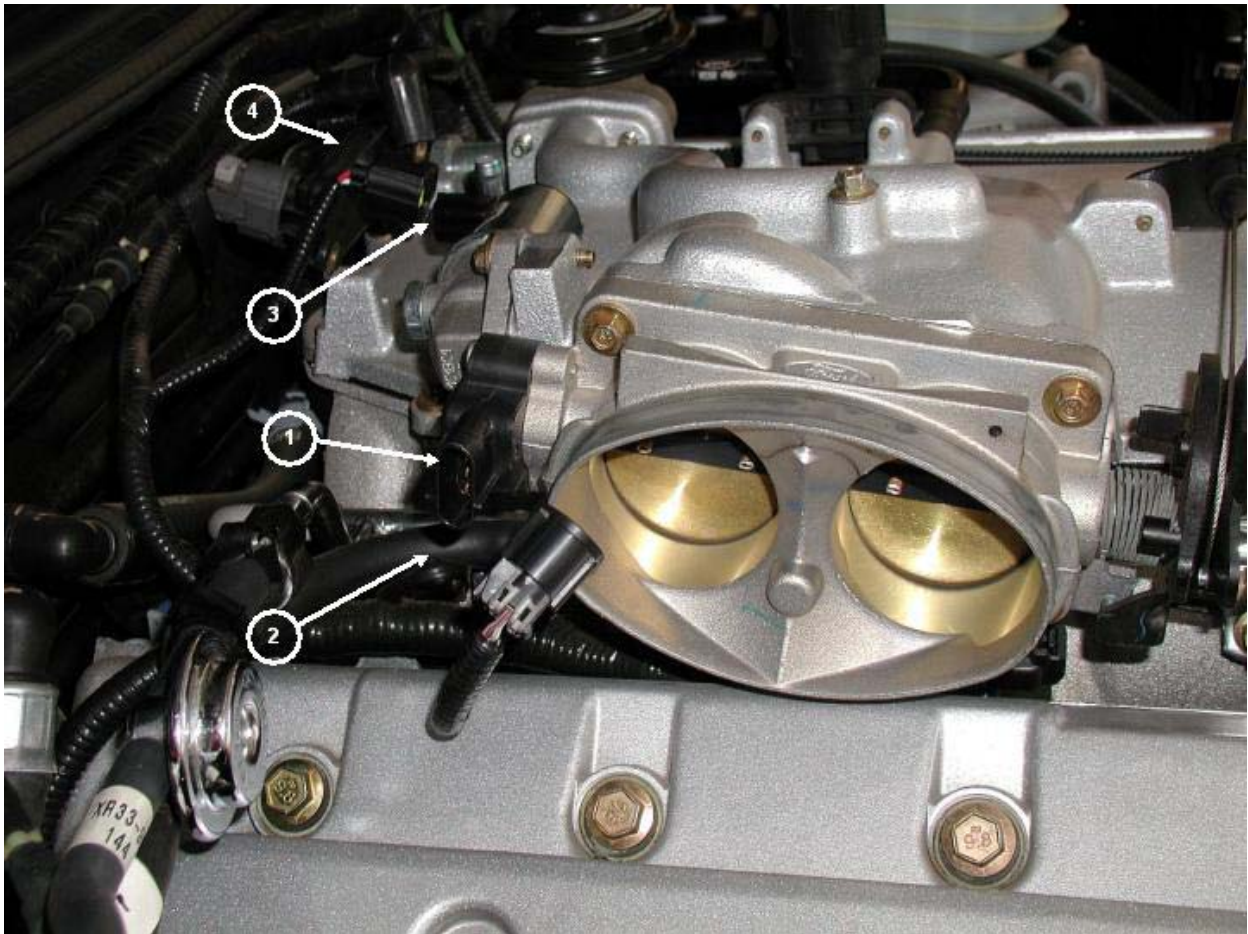
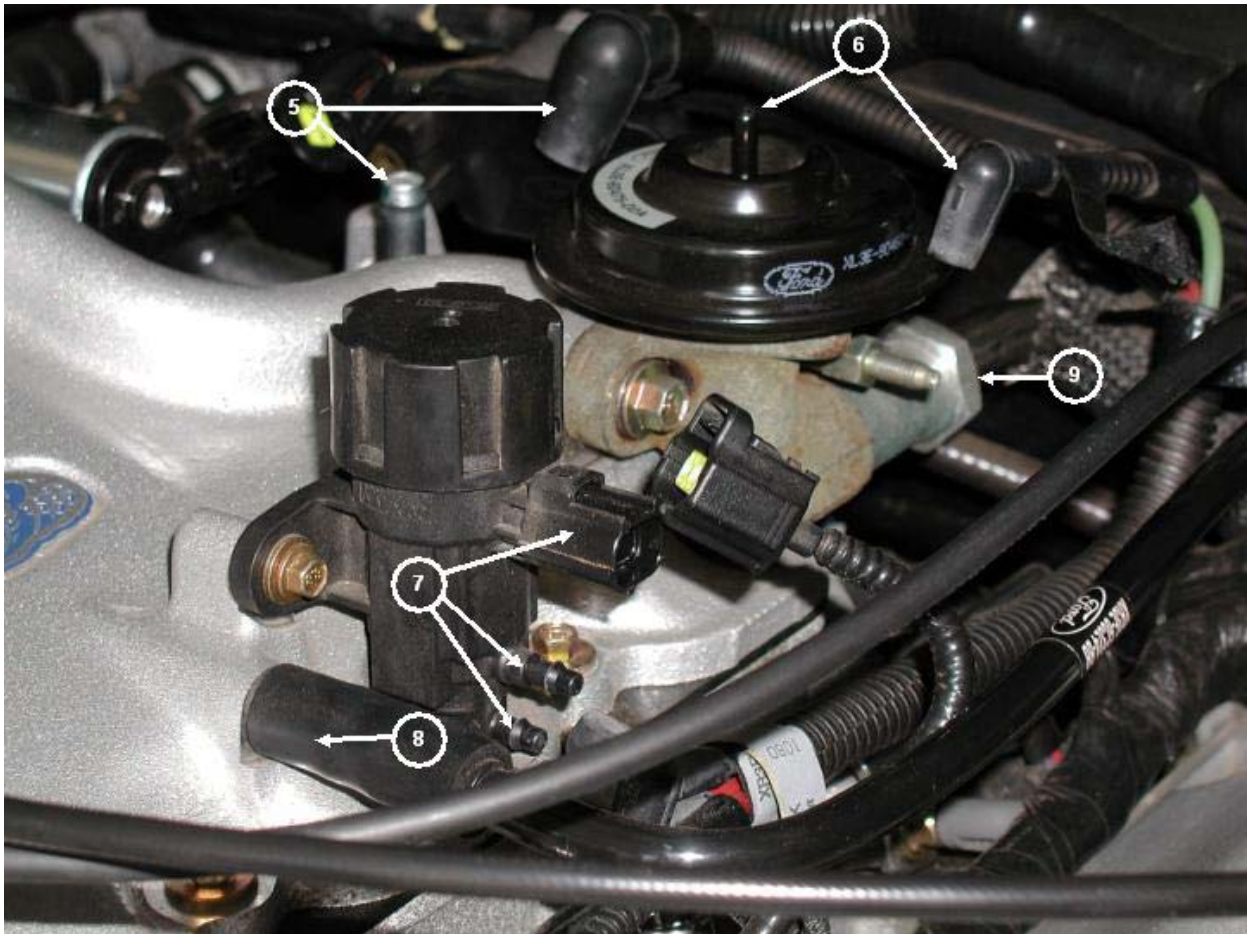
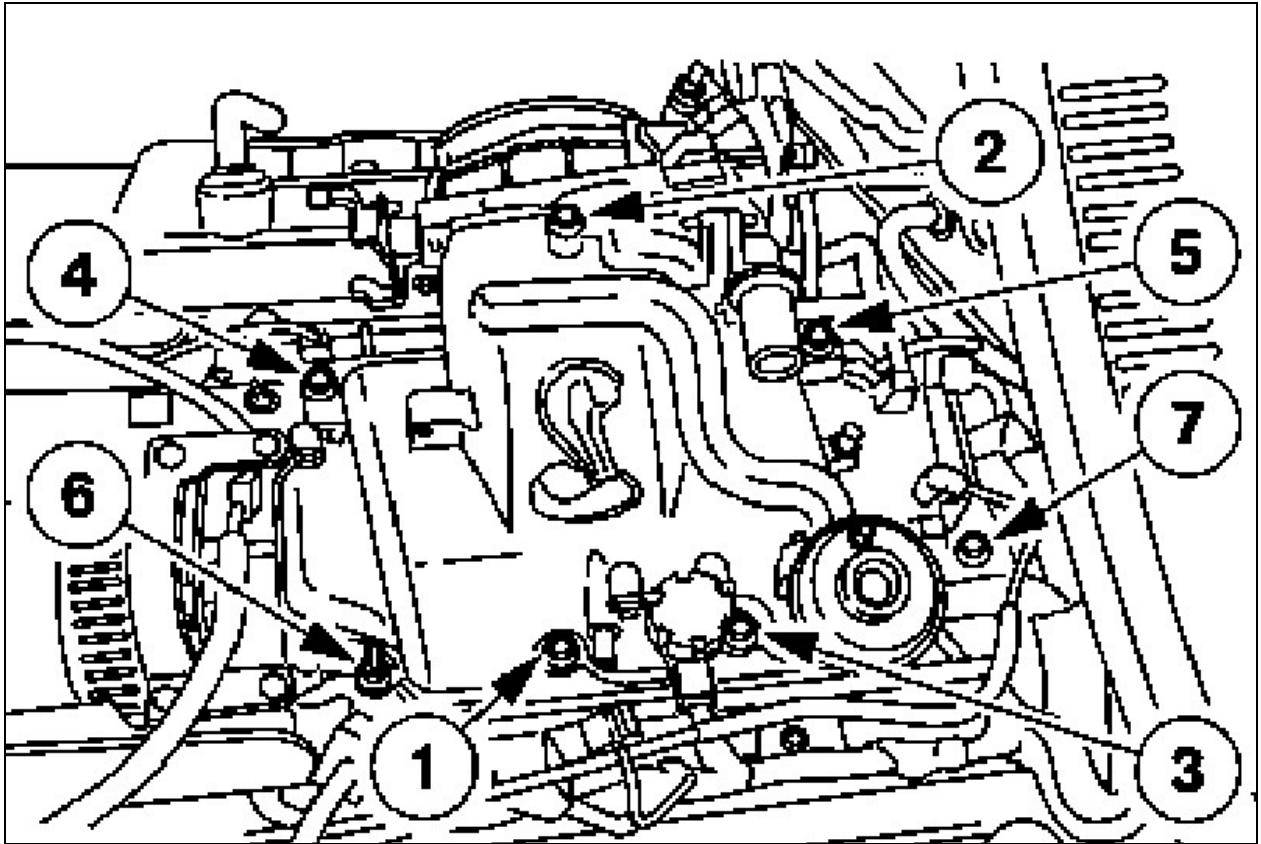
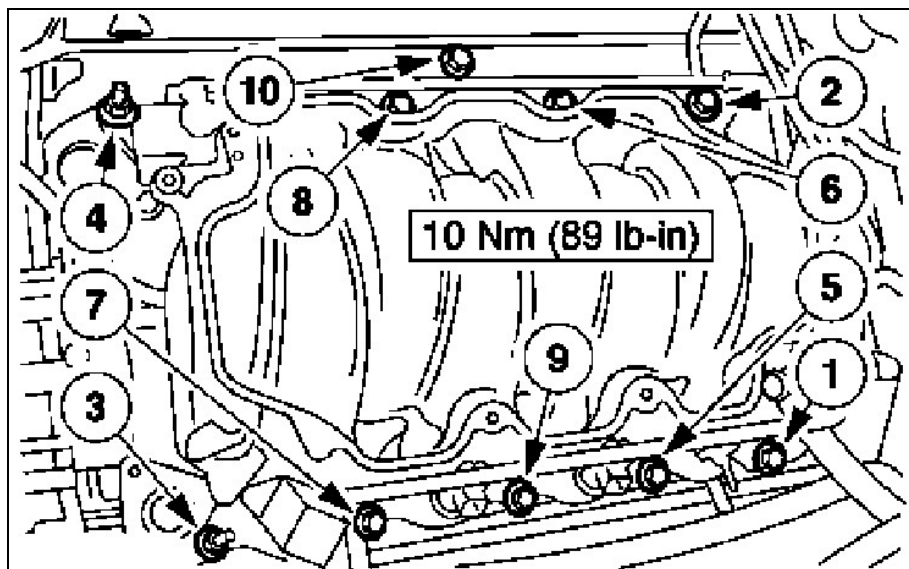

Figure 3 Upper Intake Connections – Passenger Side
Figure 4 Upper Intake Connections – Driver Side
Figure 5 Upper Intake Bolt Removal Sequence
Figure 9 Lower Intake Bolt/Stud Removal
lay it aside on the driver's side of the engine bay. Have a couple shop towels on hand to lay the assembly on to avoid scratching its finish. Refer to Figure 3, Figure 4, and Figure 5 to complete this section. The numbered arrows in Figure 3 and Figure 4 point out the components named in these steps.
- 10) Remove the upper intake bolts in the sequence detailed in Figure 5.
You can now unbolt and remove the lower intake. Refer to Figure 9 to complete this section. The numbered arrows in Figure 9 indicate the order of bolt removal from the intake.
- 1) Remove the eight (8) bolts and two (2) studs from the lower intake in the order indicated in Figure 9.
- 1) Sequence of installing the lower intake bolts and studs is the reverse of the sequence for removal (Figure 9), so work from 10 down to 1. To avoid warping or cracking the intake, tighten the fasteners in two stages, first to 46 lb-in (5 Nm), then to 89 lb-in (10 Nm).
- 4) When reinstalling the alternator bracket, torque all four (4) bolts to 89 lb-in (10 Nm).
- 5) Before reinstalling the upper intake, lube its gasket with clean engine oil. Sequence of installing the upper intake bolts is the same as the sequence for removal (Figure 4), so work from 1 down to 7. To avoid warping or cracking the upper intake, tighten the bolts in two stages, first to 46 lb-in (5 Nm), then to 89 lb-in (10 Nm).